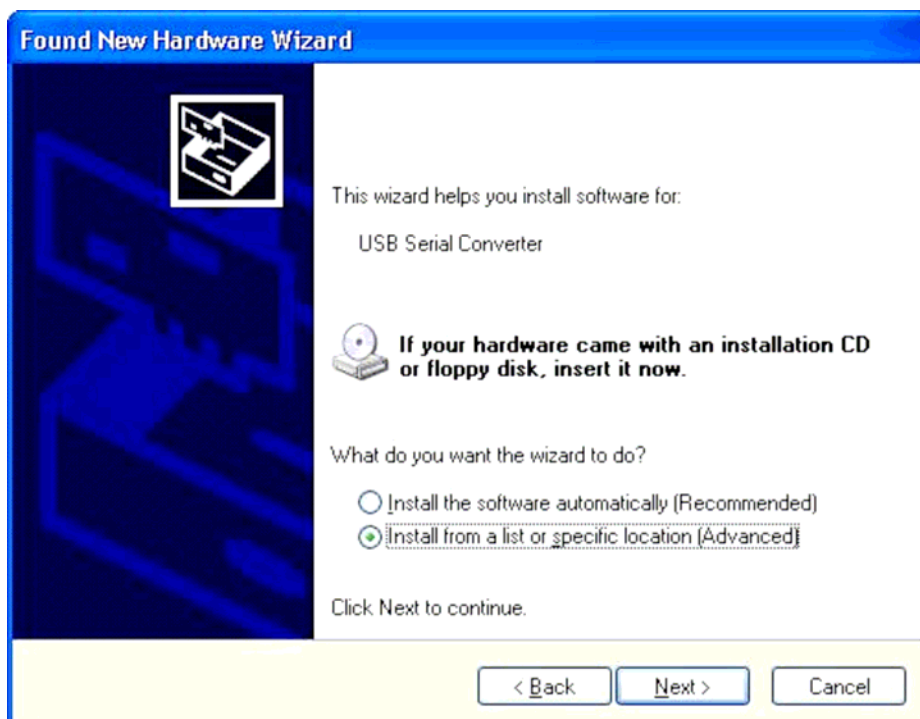

Figure 2.2
- Select "Install from a list or specific location (Advanced)" as shown in Figure 2.2 below and then click "Next".